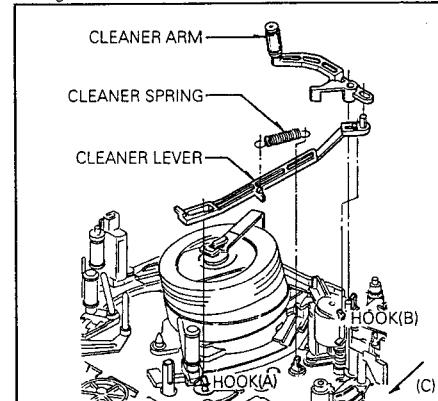

Fig. B-1 Auto Head Cleaner Assembly
1. Auto Head Cleaner Assembly(Fig. B-1)